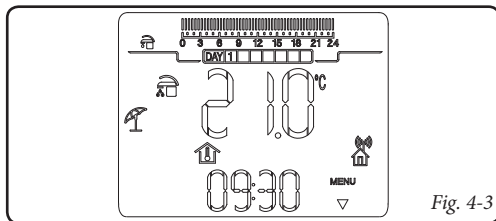

Fig. 4-3
- **Summer mode** (☀️). In this mode the boiler is enabled for producing domestic hot water excluding heating the environment. The display shows the day and the current time, the room temperature and hour bar with the daily programming of the DHW timer together with the relative symbols (Fig. 4-3).